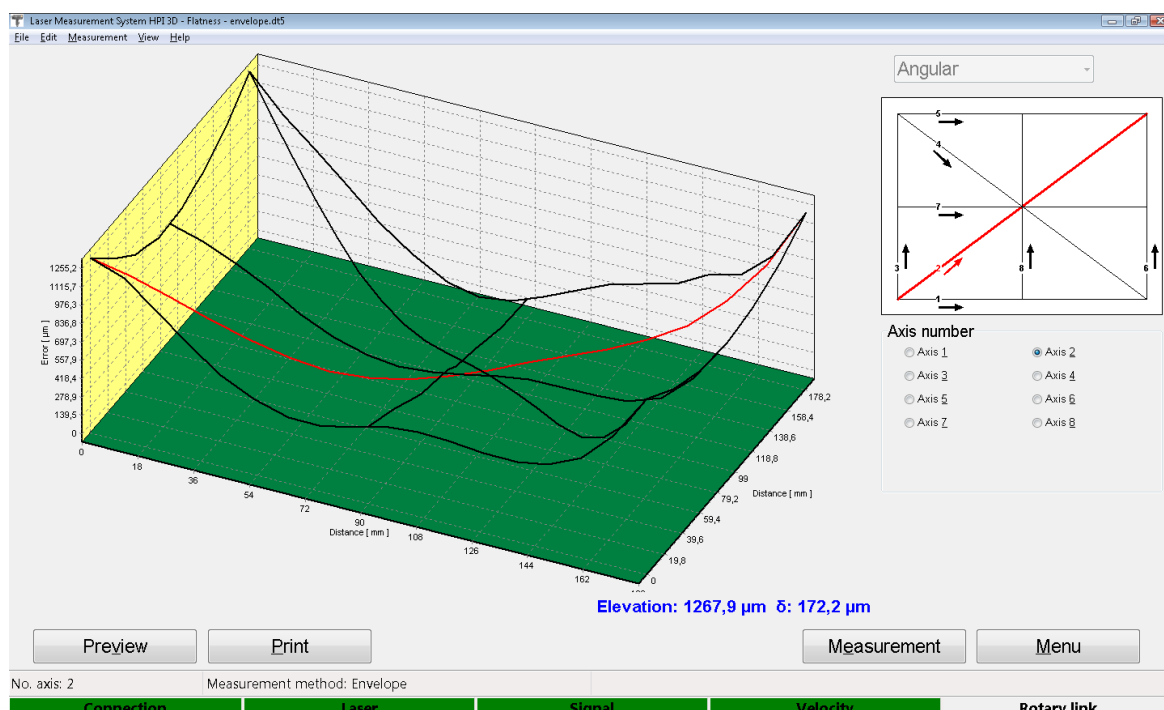

FIG.8.14. A RESULT OF FLATNESS MEASUREMENT.
- The software returns to the Flatness Summary screen – see figure 8.14